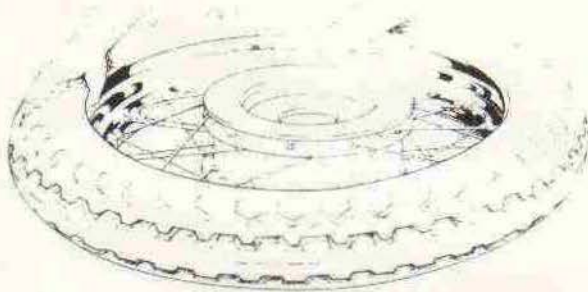
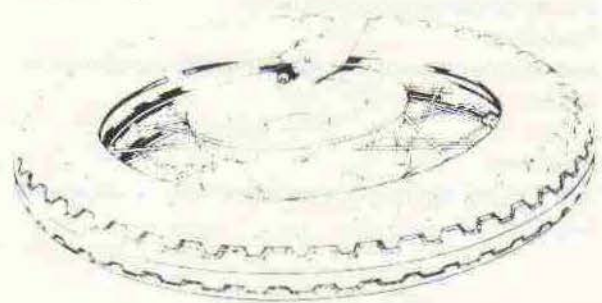

Fig. F33. Placing the security bolt in position
Fig. F34. Refitting the second bead with the security bolt in position
- (1) Fit the rim band.
- (2) Fit the first bead to the rim without the inner tube inside.
- (3) Assemble the security bolt into the rim, putting the nut onto the first few threads (see Fig. F34).
- (4) Partly inflate the inner tube and fit it into the tyre.
- (5) Fit the second bead but keep the security bolt pressed well into the tyre, as shown in Fig. F33, and ensure that the inner tube does not become trapped at the edges.
- (6) Fit the valve stem nut and inflate the tyre.
- (7) Bounce the wheel several times at the point where the security bolt is fitted and then tighten the security bolt nut.